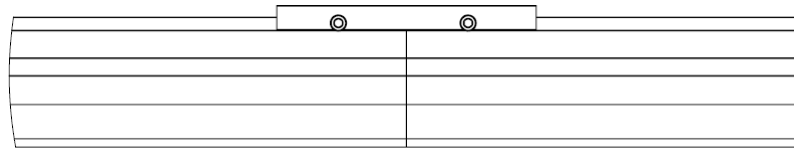

Figure 9: **Track Sections Butted Together with No Gap**
- Make sure there is no gap between the track sections (Figure 9).